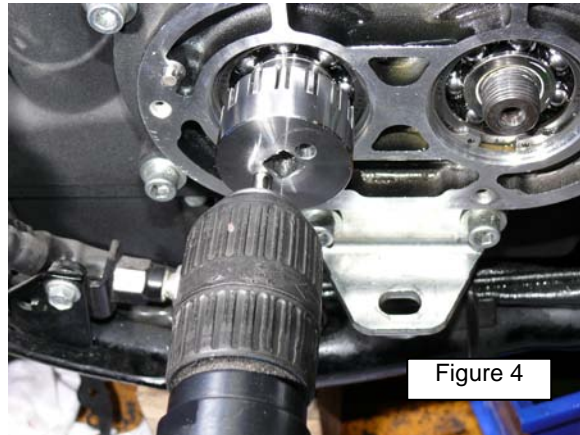

Figure 4
- 3.8 Using the supplied boring tool and the special tool as a guide, drill the main shaft through two holes of the special tool as shown. Stop when cutter contacts bearing race. Figure 4